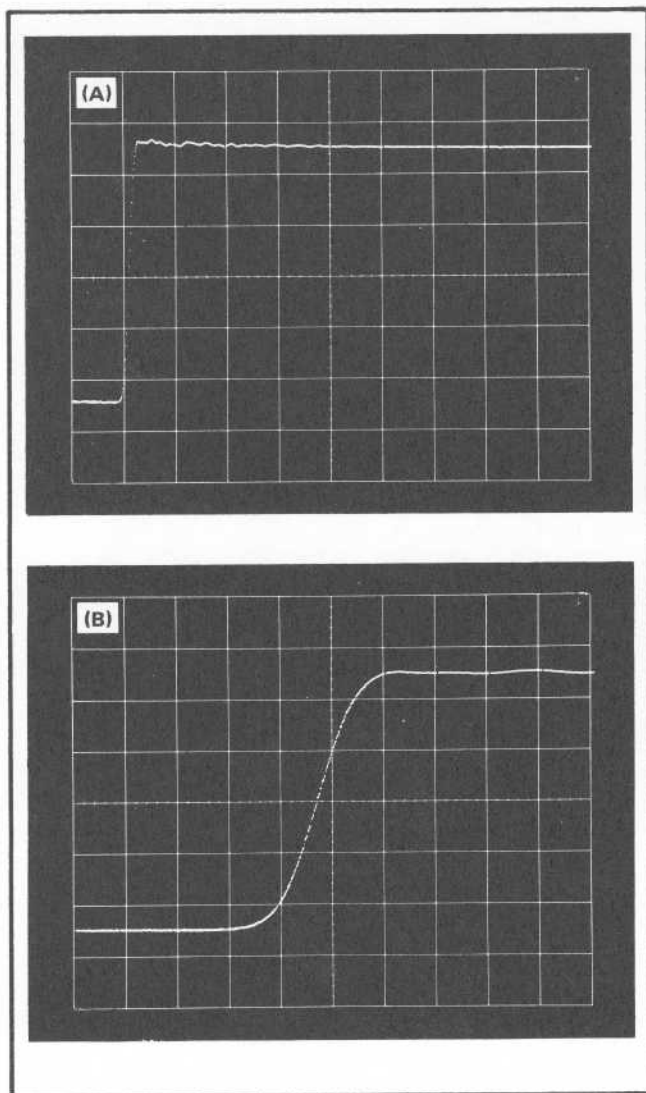

Fig. 5-5. CRT display showing (A) typical aberrations and (B) typical risetime of the Type 7A16.
c. CHECK—All positions of the VOLTS/DIV switch for risetime and aberrations (see Fig. 5-5) using the information given in Table 5-3.